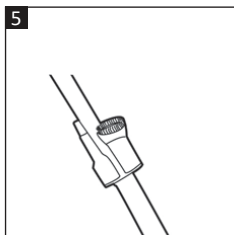

Fig. 5
- The accessories holder (3) can be clipped onto the telescopic tube (19) to keep cleaning tools handy during cleaning (Fig. 5).